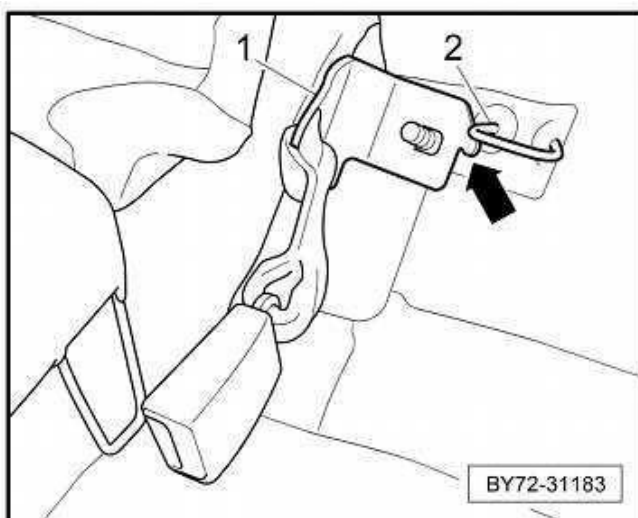

Figure 28
- Referring to Figure 28 - Clean any excess adhesive which may have transferred onto the left hand thread